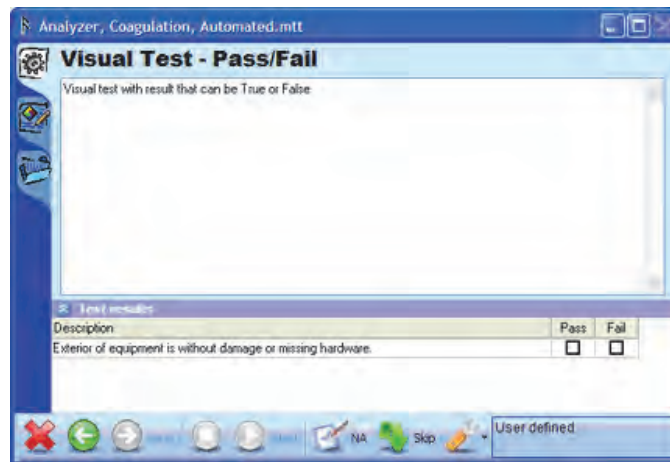

Figure 3-4. Ansur Test Guide Window
4. To start the template, click **Test | Start Test** or click the **Start Test** icon (▶) on the menu toolbar to display the Test Guide window shown in Figure 3-4.